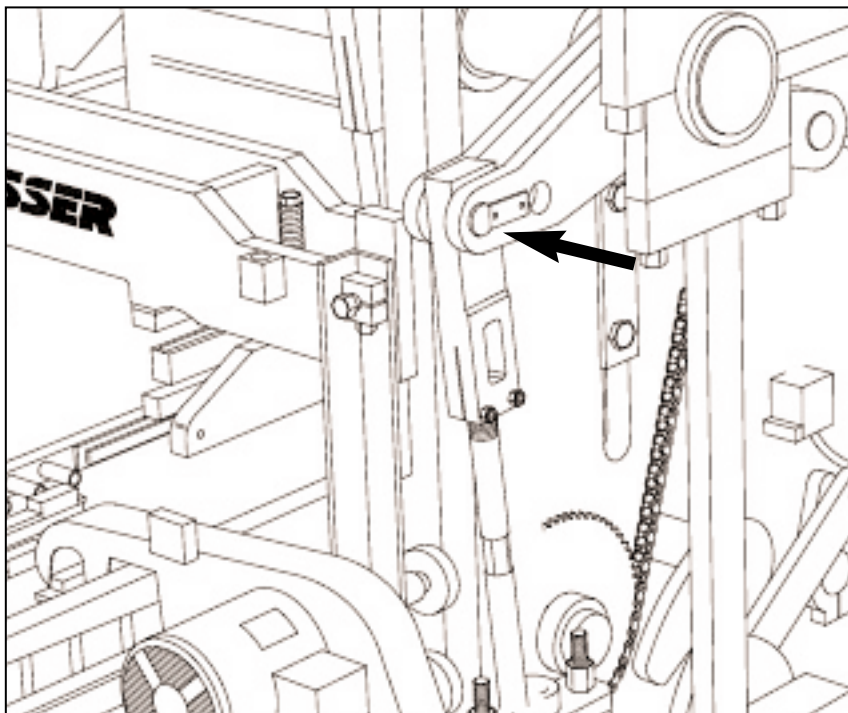

Figure 4.40 PALLET RECEIVER SHAFT POSITION.
4.3.4 The following items should be positioned as shown on figures 4.40 and 4.41.
- a. Pallet receiver shaft - position pins in inside holes (short stroke)(see figure 4.40).